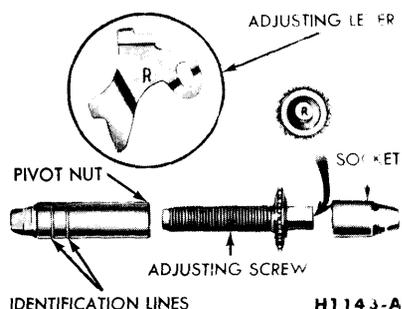

FIG. 9—Adjusting Screws and Lever Identification
Interchanging the brake shoe adjusting screw assemblies from one side of the car to the other would cause the brake shoes to retract rather than expand each time the automatic adjusting mechanism operated. To prevent installation on the wrong side of the car, the socket end of the adjusting screw is stamped with an R or L (Fig. 9). The adjusting pivot nuts can be distinguished by the number of lines machined around the body of the nut. Two lines indicate a right hand nut; one line indicates a left hand nut.
10. Hook the cable hook into the hole in the adjusting lever. The adjusting levers are stamped with an R or L to indicate their installation on a right or left hand brake assembly (Fig. 9).